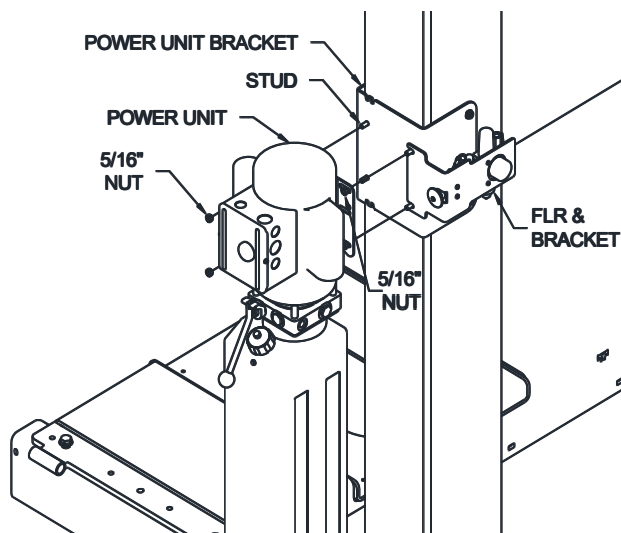

Fig 21b – Power Unit Bracket & Power Unit Mounting
- 52) Note the Power Unit bracket is welded on the Closed Front Power Column. Place the power unit on the studs and start to thread each nut on just to hold the power unit on the studs. Slip the FLR mounting bracket behind the power unit and tighten all 4 nuts down. See **Fig 21b**.